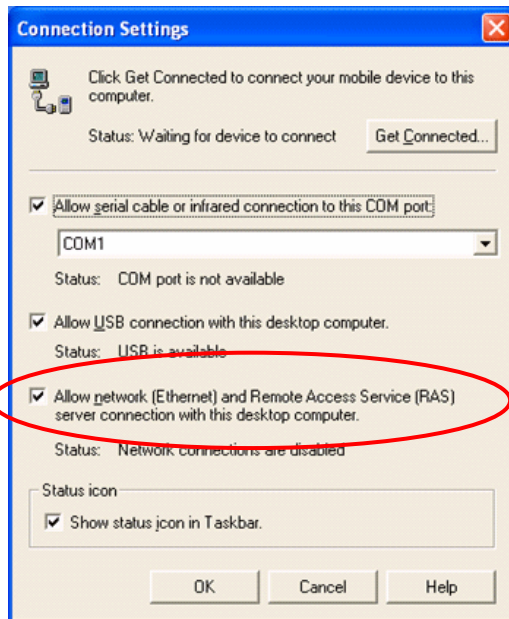

Figure 5.33
1. On the PC, make sure **Allow network [Ethernet] and Remote Access Service [RAS] server connection with this desktop computer.** has been set enabled (see Figure 5.33).